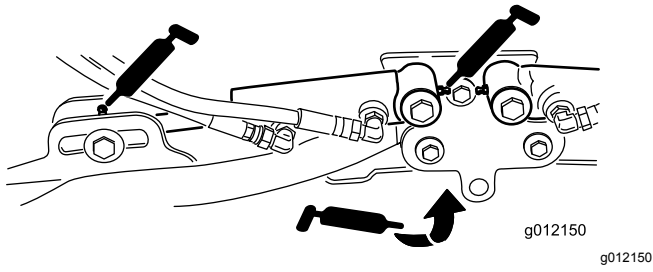

Figure 63
- Cutting-unit lift-arm cylinders (2 each) (Figure 63)
- Lift-arm pivots (1 each) (Figure 63)